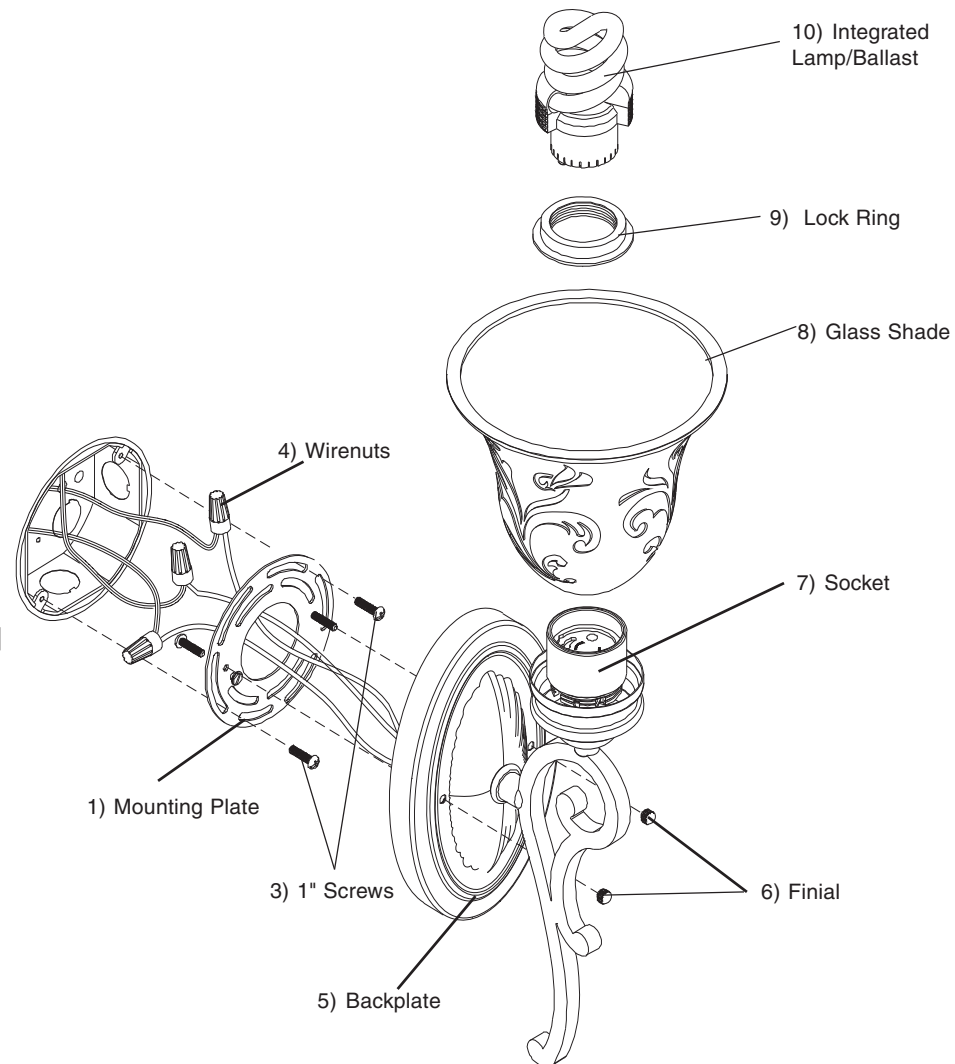

Figure 1
4. **With the power turned off, hold the fixture firmly** and connect the green ground wire from the fixture to the bare copper ground wire from the junction box using a Wirenut (4). *(If house wiring does not include a ground wire, consult your local electrical code for approved grounding methods).* **See Fig. 1.**
5. **Use Wirenuts (4)** to connect black fixture wire to the black power supply wire and white fixture wire to the white power supply wire.
7. **Position the Backplate (5)** over the Screws protruding from the Mounting Plate (1) and secure fixture with Finials (6).
8. **To Install Glass Shade (8)**, unscrew Lock Ring (9) from the Socket (7). Place Glass Shade (8) over the Socket (7) and reinstall the Lock Ring (9). **See Fig. 1.**